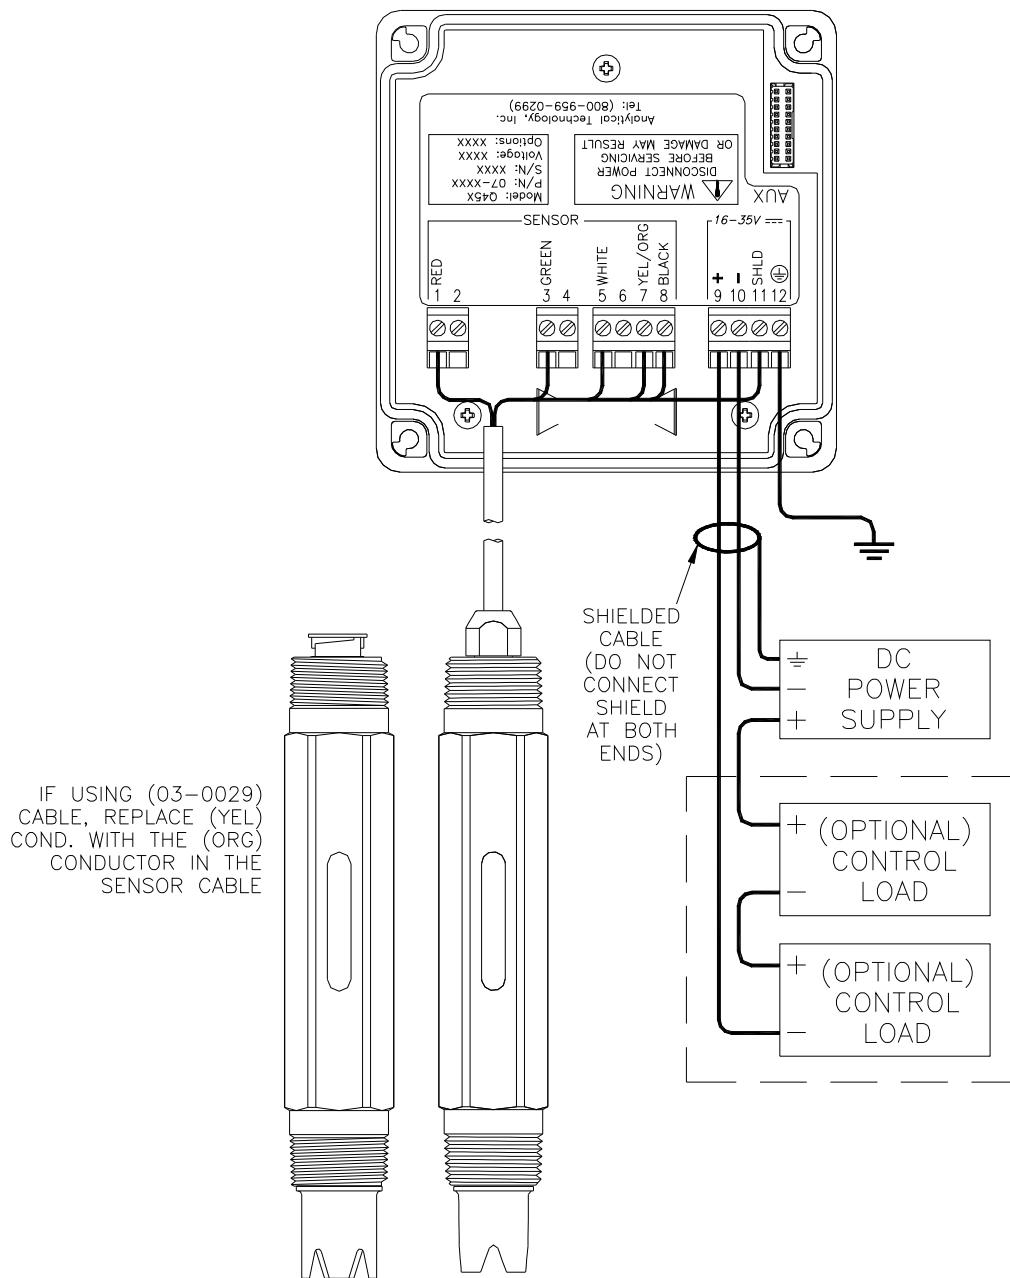

Figure 17 - DC/Loop Power Wiring Diagram
1. Use wiring practices that conform to all national, state and local electrical codes. For proper safety as well as stable measuring performance, it is important that the earth ground connection be made to a solid ground point from earth terminal 12 as shown in Figure 17.
In the two-wire configuration, a separate DC power supply must be used to power the instrument. The exact connection of this power supply is dependent on the control system into which the instrument will connect. See Figure 17 for further details. Any twisted pair shielded cable can be used for connection of the instrument to the power supply. Route signal cable away from AC power lines, adjustable frequency drives, motors, or other noisy electrical signal lines. Do not run sensor or signal cables in conduit that contains AC power lines or motor leads.